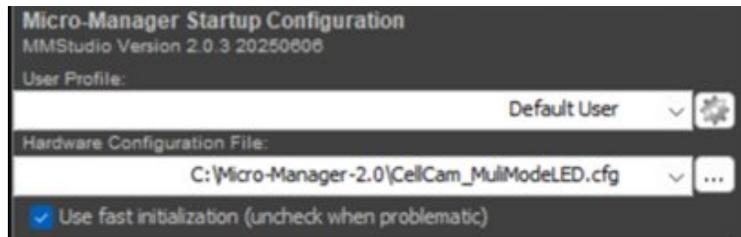

Figure 20: Select the Default user profile and displayed configuration.
- Ensure the hardware configuration file `CellCam_MultiModeLED.cfg` is selected (see Figure 20) before proceeding.